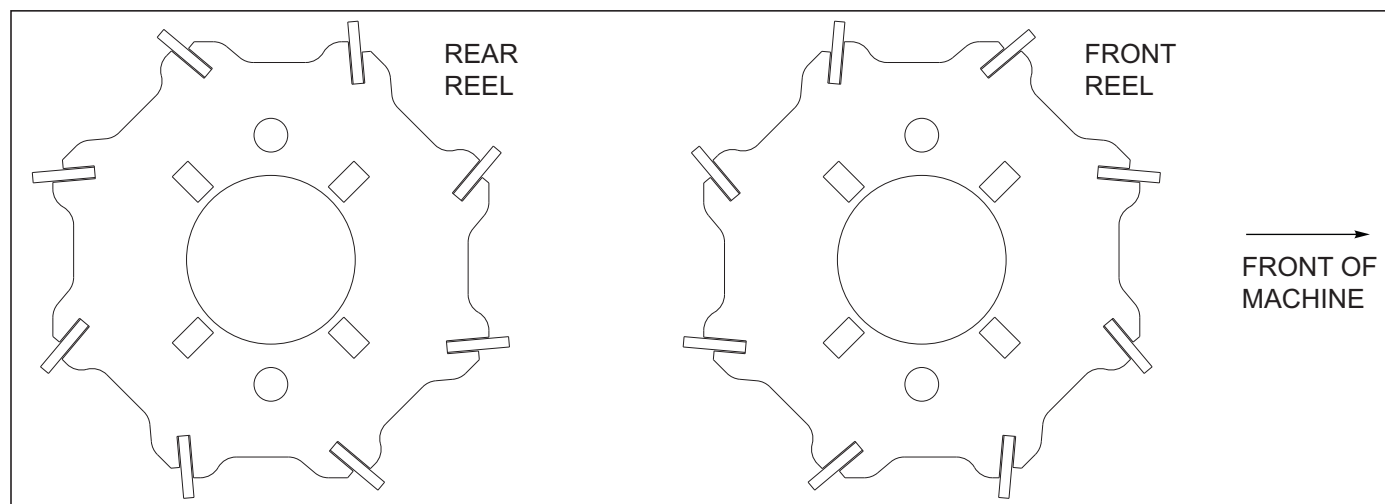

Figure 3-67: 3RS DBL Flat Reel Installation
4. Attach flat bar reels with front and rear reel angled blades as shown **See Figure 3-67**.
*Reel assemblies are shipped with the front reel blades as shown **See Figure 3-67**. Trailing reels are angled backwards for more firming action.*